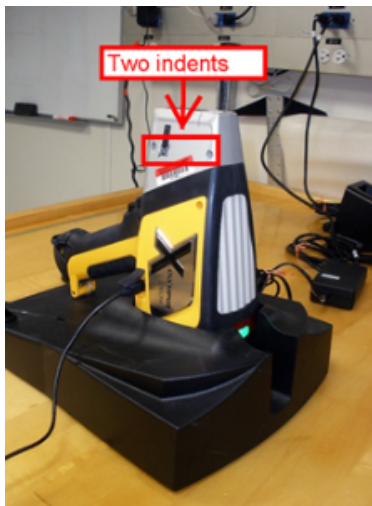

Figure 9. pXRF in FlexStand base. Red arrow indicating two indents on analyzer nose
2. Place the back of the analyzer into the indented portion of the FlexStand Base. The analyzer nose will point into the air as in *Figure 9*. Take note of the two indents in the analyzer nose.